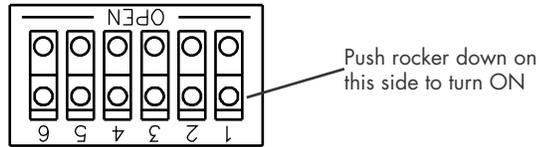

Figure 10 - Serial Connector Rear View
2. It is best to set the unit on a flat surface. With the Alarm placed so that the Input/Output connectors are facing towards you, unscrew the four (4) screws that hold the cover on. They are retained in the cover so there is no need to remove them completely.
4. Locate the DIP switches and then using a stylus or small screwdriver, close the DIP switch for the system you wish to enable. Refer to Table 9 and Figure 10 to select the correct DIP switch.